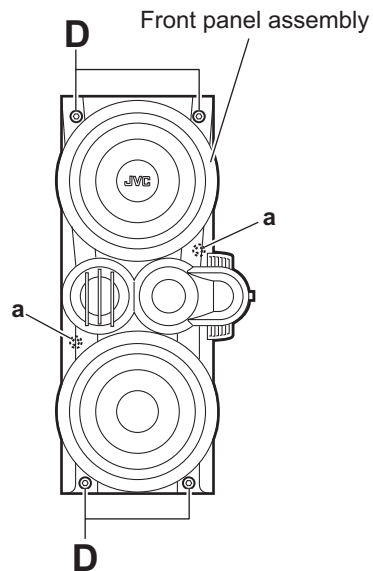

Fig.3
3.4.3 Removing the front panel assembly (See Figs.3 and 4)
- (1) Remove the four screws **D** attaching the front panel assembly. (See Fig.3.)
- (2) Release the two joints **a**. (See Fig.3.)
When removing the front panel assembly from the speaker main body, do not break or damage them that are glued at the joints **a**. (See Fig.3.)
- (3) From the inside of the front panel assembly, disconnect the yellow and black wires from the two terminals on the tweeter. (See Fig.3.)